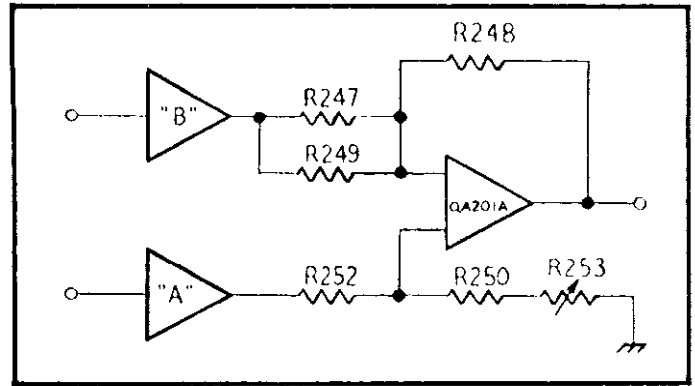

FIGURE 22. Differential Mode.
2. Differential Mode. For this mode, amplifiers "A" and "B" are connected to the non-inverting and inverting inputs respectively of amplifier "C" as shown in Figure 22. The gain of the non-inverting input is set by resistors R250, R252, R253, R247, R248 and R249 as follows: